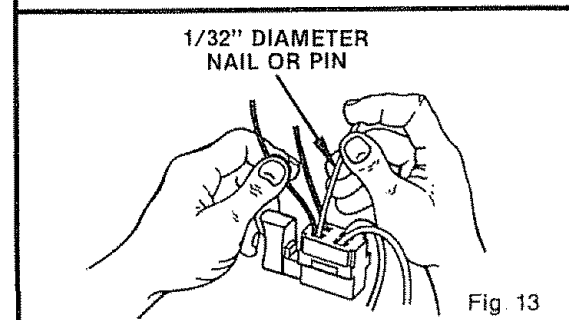

Fig. 13
- 2 Lift the switch away from the handle, then release the leads to the switch by inserting a 1/32" diameter pin or nail into each switch lead receptacle. See Figure 13.